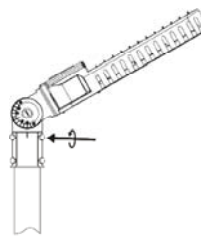

FIG.9
- Tighten the four M8 bolts on the slipfitter and secure it to the pole (see **FIG.9**).